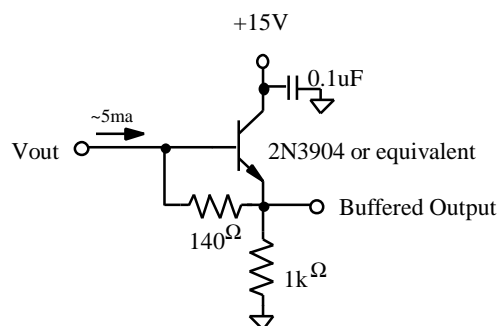

Figure 4 - Recommended Output Structure Load Diagram
Charge presented to the floating diffusion (FD) is converted into a voltage and current amplified in order to drive off-chip loads. The resulting voltage change seen at the output is linearly related to the amount of charge placed on FD. Once the signal has been sampled by the system electronics, the reset gate ( $\Phi R$ ) is clocked to remove the signal and FD is reset to the potential applied by VRD. More signal at the floating diffusion reduces the voltage seen at the output pin. In order to activate the output structure, an off-chip load must be added to the Vout pin of the device - see Figure 4.